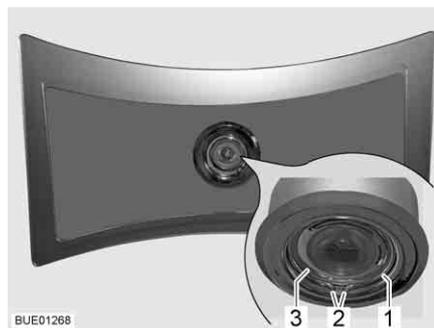

Fig. 296 Ceiling lamp
- Press the two ends (Fig. 296,2) of the spring ring (Fig. 296,1) together and remove.
- Remove the housing (Fig. 296,3) with LED from the lamp.